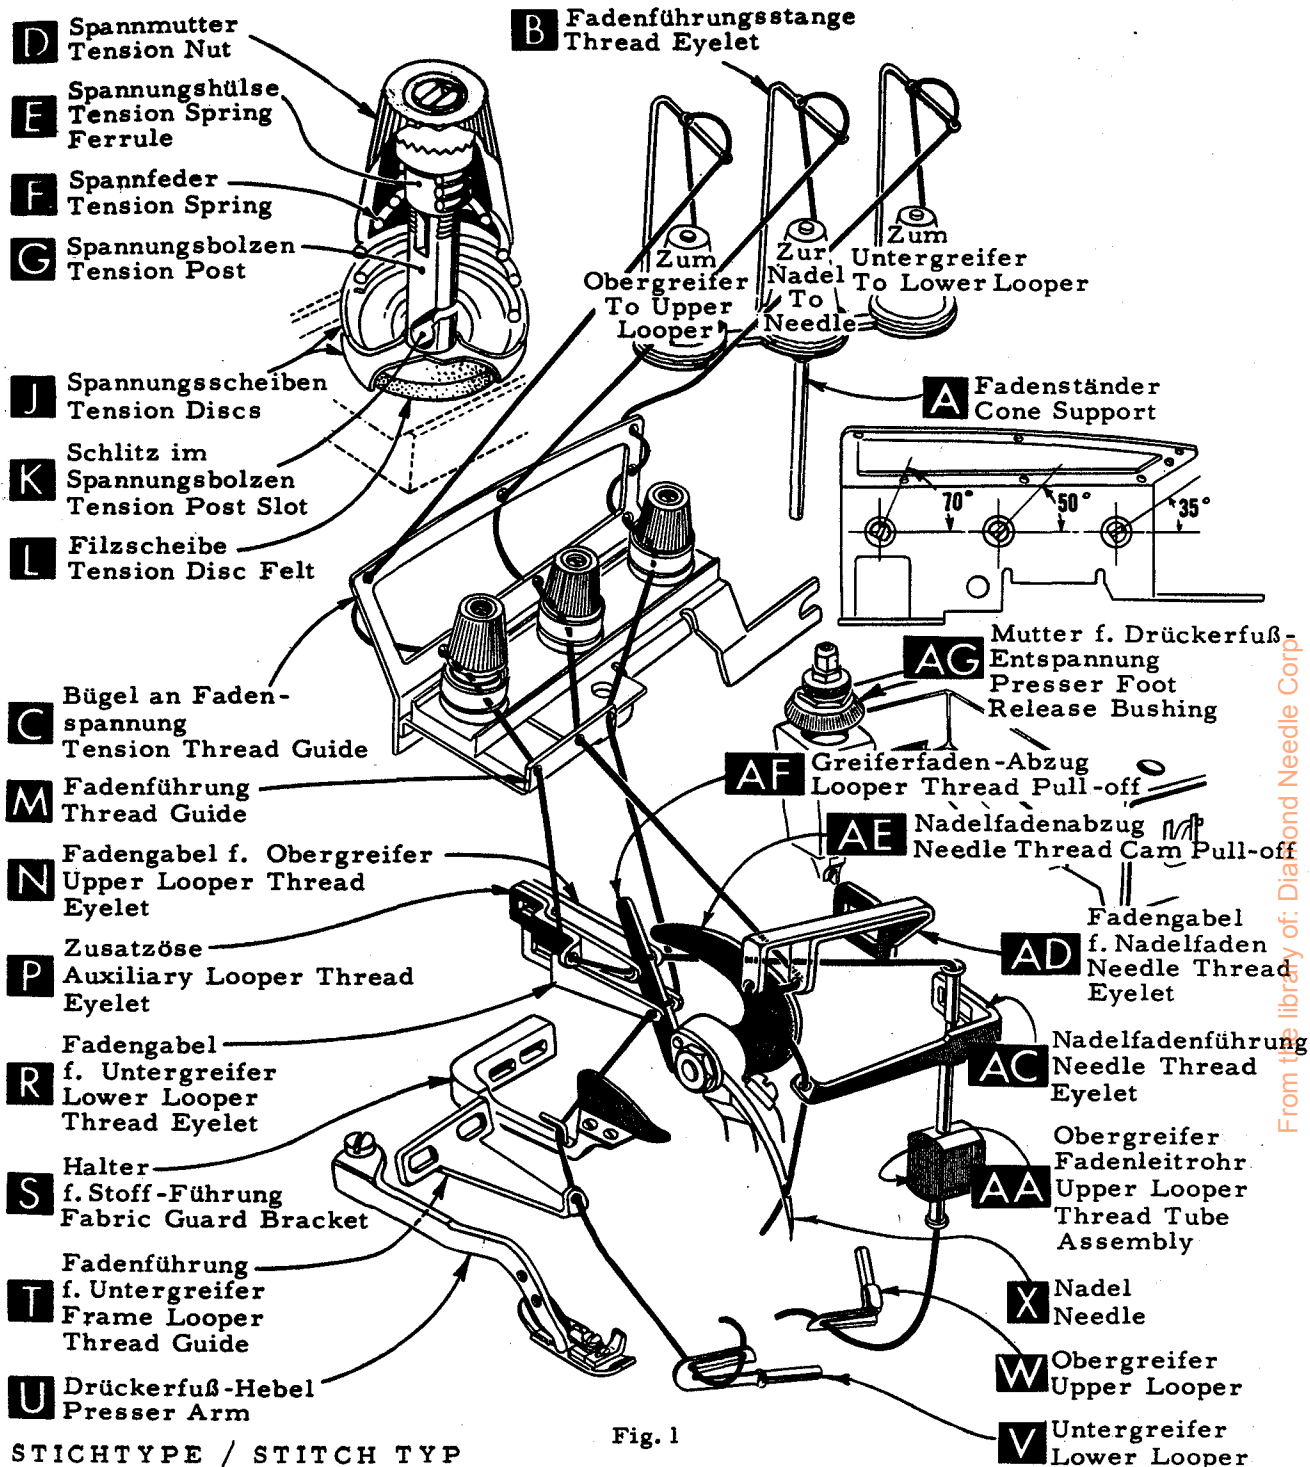

Fig. 1
After thread comes from cone on cone support (A, Fig. 1, 1B, 1C or 1D) as applicable. It is brought up through the back hole of thread eyelet (B), then down through the front hole of thread eyelet. The needle and upper looper threads are then threaded through the upper hole of tension thread guide (C) from front to back, and then through the lower hole from back to front. The lower looper thread is threaded through the upper hole back to front, through the middle hole from front to back, and finally through the lower hole from back to front. All three threads then continue between the tension discs (J), through tension post slot (K) in tension post (G) and on through front thread guide (M).
Only parts involved in threading are shown in threading diagrams (Fig. 1, 1A, 1B, 1C and 1D). Parts are placed in their relative positions for clarity.